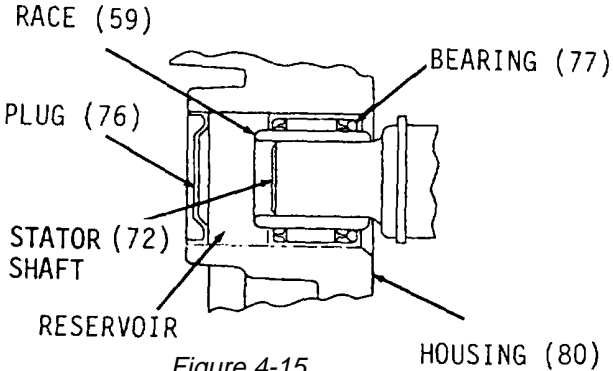

Figure 4-15.
- 3. Install new bearing (77), if removed. Press from the inside of housing (80) on the seal portion of new bearing (77) until new bearing (77) is a depth of 0.640 to 0.650 inch.
- 4. Using lubricant, fill housing (80, Figure 4-15) reservoir half full. Arrange lubricant so a portion will touch bearing (77).